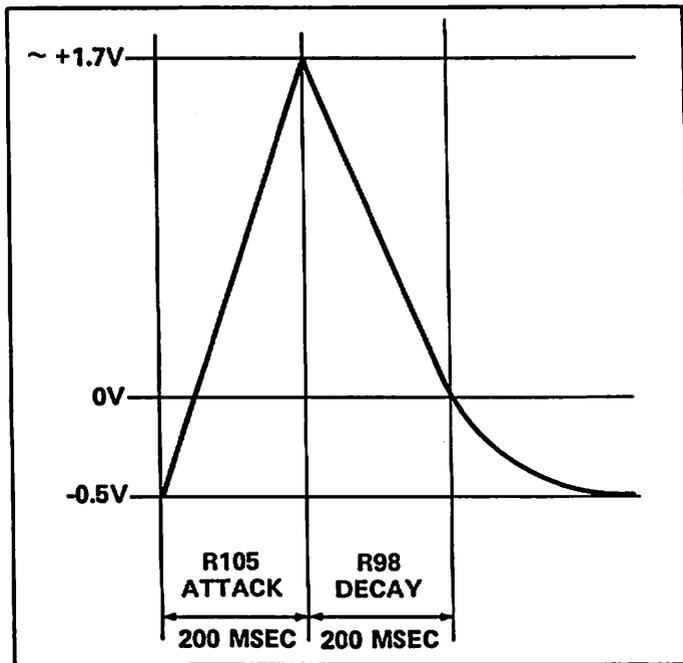

FIGURE 4-8 FILTER CONTOUR AT Q20 SOURCE
c) Adjust filter decay and attack trimpots R98 and R105 until the filter contour matches the pattern shown in Figure 4-8.